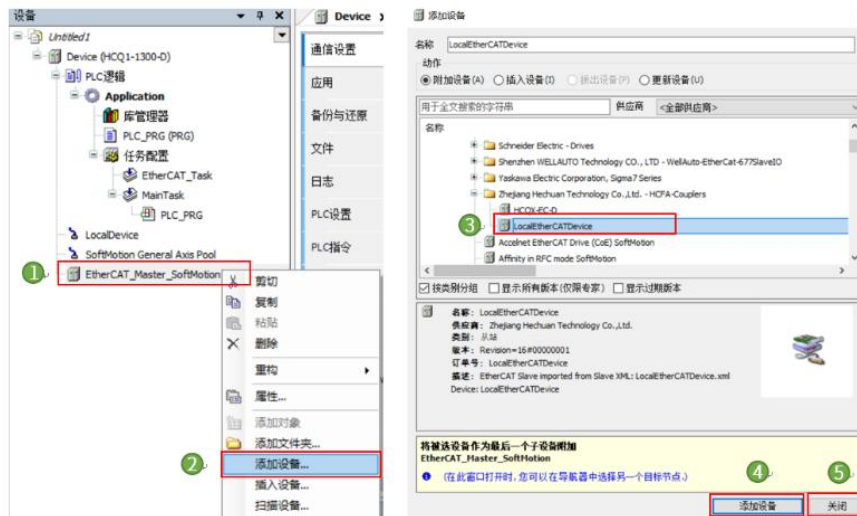

Figure 13-8 LocalEtherCATDevice adding
2. Right-click [EtherCAT_Master_SoftMotionm] and select [Add Device]. Select [LocalEtherCATDevice] in the pop-up screen, and click [Add Device], and click [Close] after adding, as shown in Figure 13-8.